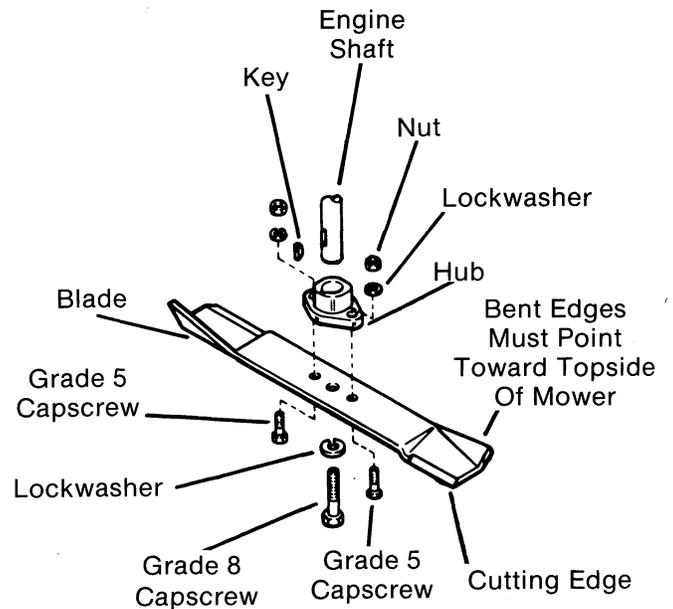

FIG. 17
- A. Check tightness of two outer Grade 5 capscrews through blade hub (Fig. 17). Torque should be 18-22 ft./lbs.
- B. Check tightness of the center Grade 8 capscrew (Fig. 17). Torque should be 38-42 ft./lbs.
To remove blade for sharpening and balancing (or replacement) remove the two outer capscrews and the center capscrew holding blade to engine crankshaft Fig. 17. NOTE: It is not necessary to remove key and hub from engine crankshaft to remove blade.
1. Key must be in engine shaft (Fig. 17).
3. Reattach the blade using the hardware as shown in Fig. 17. DO NOT TIGHTEN UNTIL ALL HARDWARE IS IN PLACE. Be sure bent corners of blade point toward topside of mower. Tighten the two outer Grade 5 capscrews using 18-22 ft./lbs. torque. Tighten the center Grade 8 capscrew using 38-42 ft./lbs. torque.